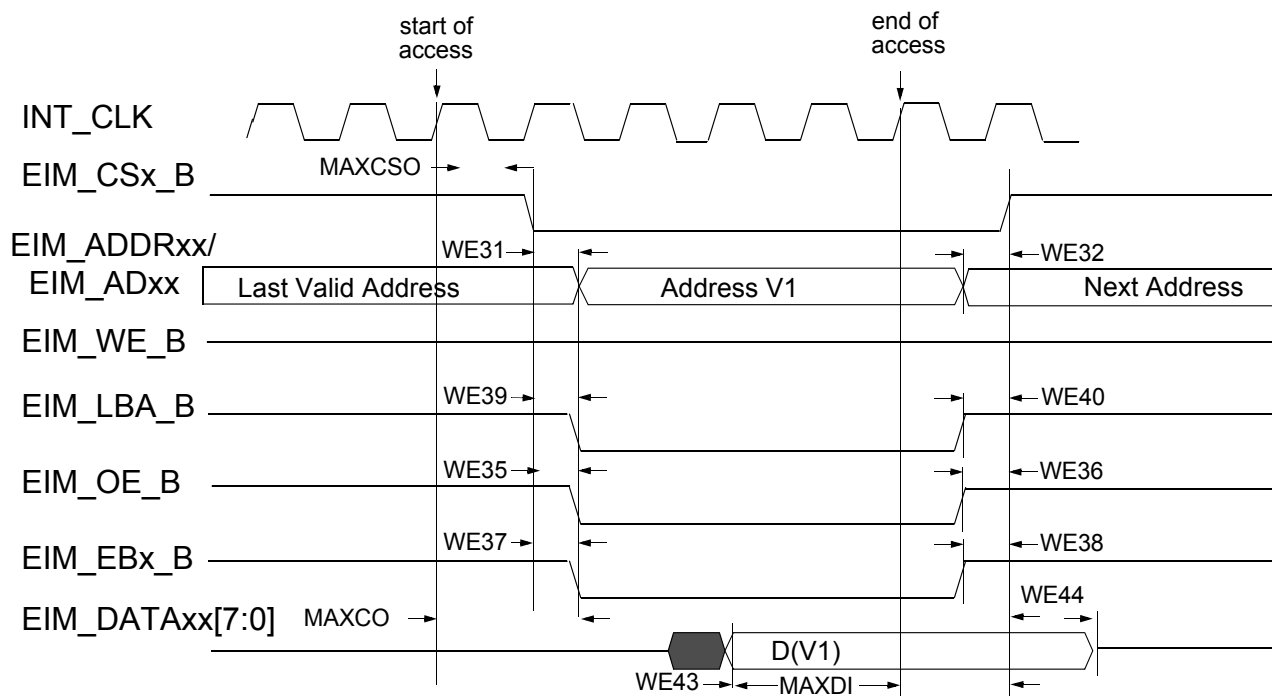
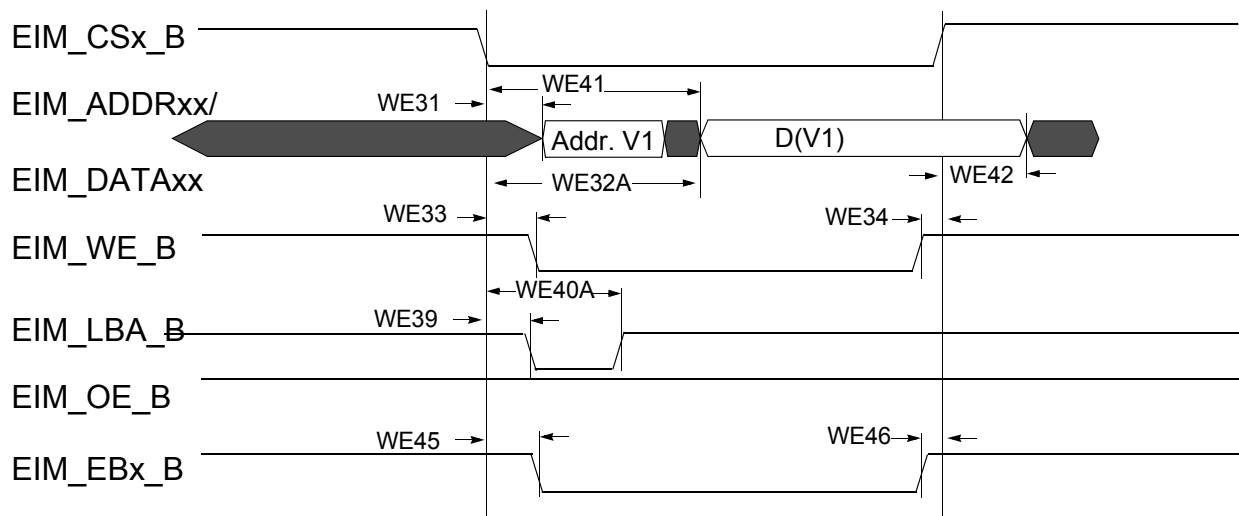
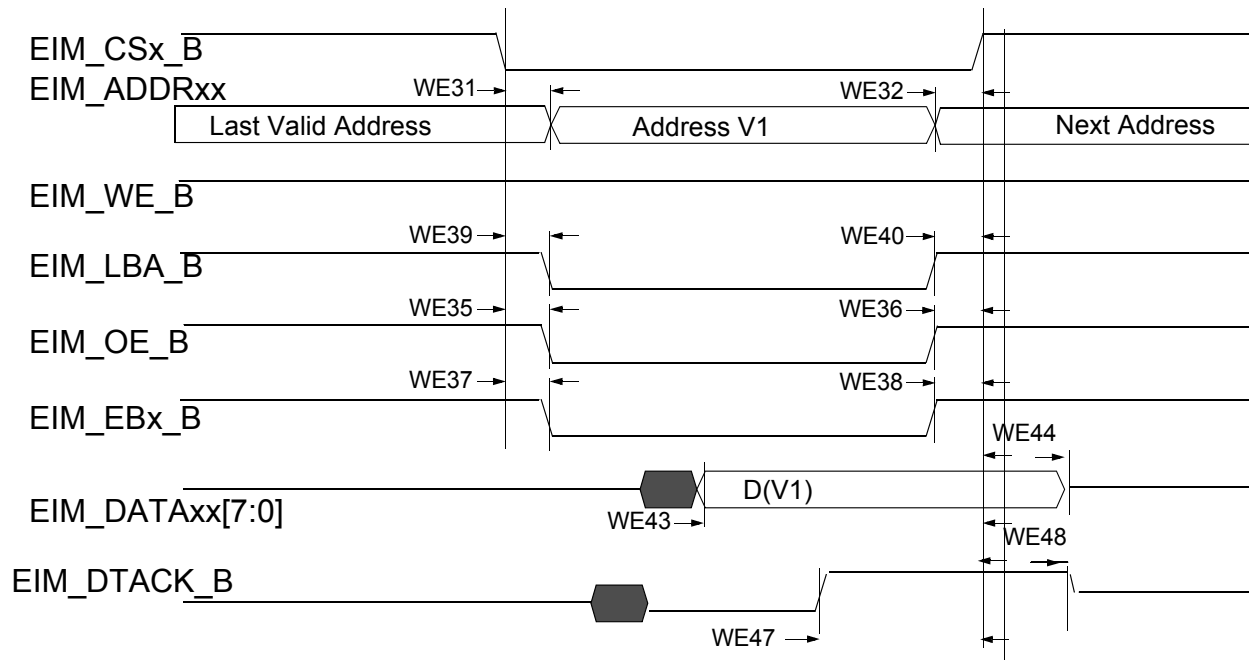

Figure 15. Asynchronous Memory Read Access (RWSC = 5)
Figure 18. Asynchronous A/D Muxed Write Access
Figure 19. DTACK Mode Read Access (DAP=0)
Figure 15 through Figure 19, and Table 40 help to determine timing parameters relative to the chip select (CS) state for asynchronous and DTACK EIM accesses with corresponding EIM bit fields and the timing parameters mentioned above.
Asynchronous read & write access length in cycles may vary from what is shown in Figure 15 through Figure 18 as RWSC, OEN and CSN is configured differently. See the *i.MX 6UltraLite Reference Manual (IMX6ULRM)* for the EIM programming model.